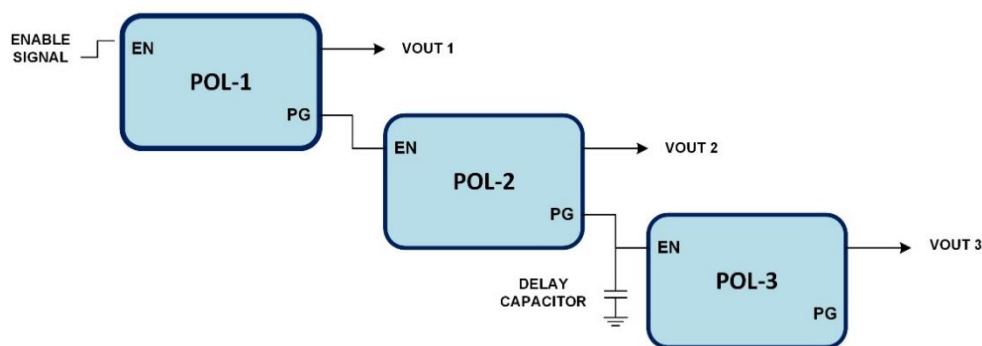

Figure 1. PGGOOD to ENABLE sequencing
The most basic way to implement sequencing is to utilize the power good (PG) and enable (EN) pins of the point-of-load (POL) or low dropout (LDO) regulator. Figure 1 shows the PG pin of converter "n" will be connected to the EN pin of converter "n+1". This cascading configuration is repeated for all the rails in the system. To add a delay between the PG signal asserting and the startup of the next regulator in the sequence, a capacitor is added to the EN pin of the next regulator.